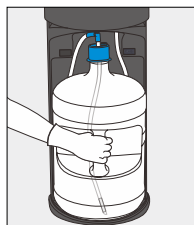

Figure 30
2. Slide empty bottle out of cabinet (Figure 30)